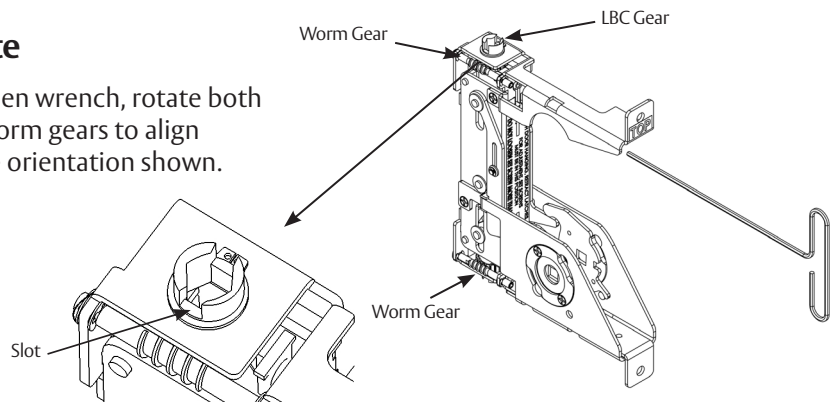

Figure 35
- Using the supplied 3/32" Allen wrench, rotate both Lockbody Cassette (LBC) worm gears to align slots in the LBC gears to the orientation shown. (Figure 35)